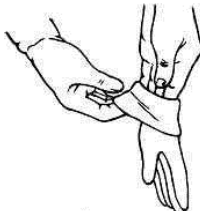

Figure 1
Before handling the Reflecting Screen (H), put on the supplied pair of white gloves (G) to avoid leaving fingerprint marks, dust or oil from your hands on the surface of the material (Figure 1). The Reflecting Screen (H) is very delicate and should be handled with extreme care. Do not allow the material to fold or bend. Failure to follow instructions will result in permanent damage to the screen material, which is not covered by warranty.
1. Remove the Reflecting Screen (H) from the packaging tube and set it gently on a clean surface.